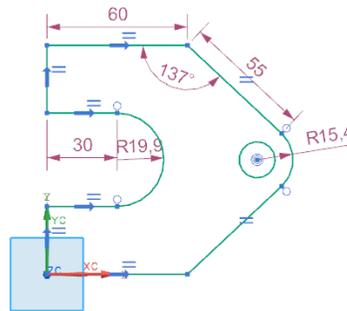

Figure 3-58 The sketch displayed after adding the required constraints
The sketch after applying all constraints is shown in Figure 3-58.
1. Double-click on the dimension of line 5; a dynamic edit box is displayed. Modify the value of the dimension to 40 and press ENTER. Next, drag and place the dimension above the line, refer to Figure 3-58.
2. Double-click on the dimension of line 7; a dynamic edit box is displayed. Modify the value of the dimension to 20 and press ENTER. Next, drag and place the dimension below the line, refer to Figure 3-58.
8. Select the circle and place the dimension, refer to Figure 3-58. Next, modify the dimension value to 12 and press ENTER.